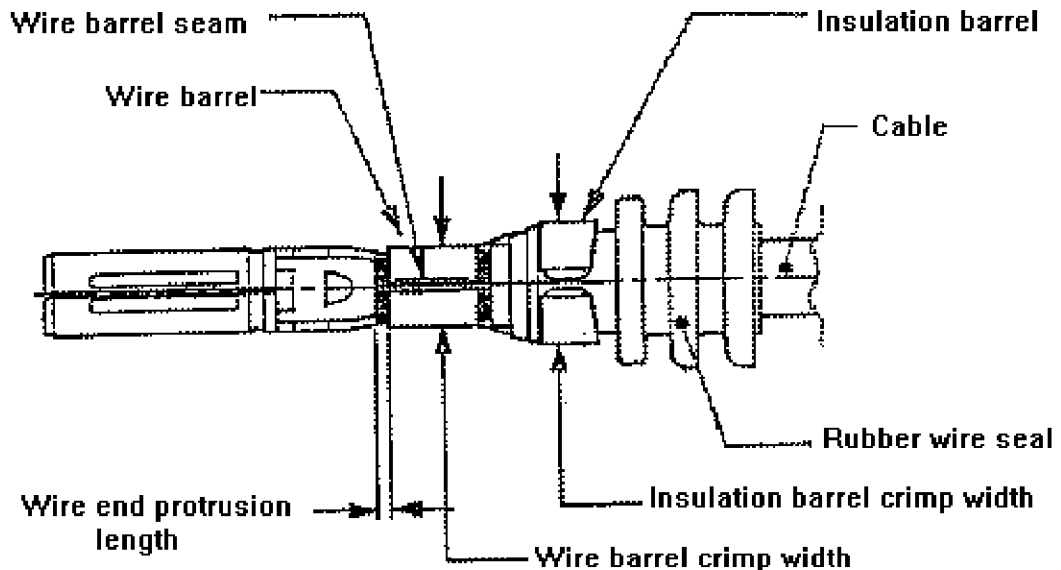
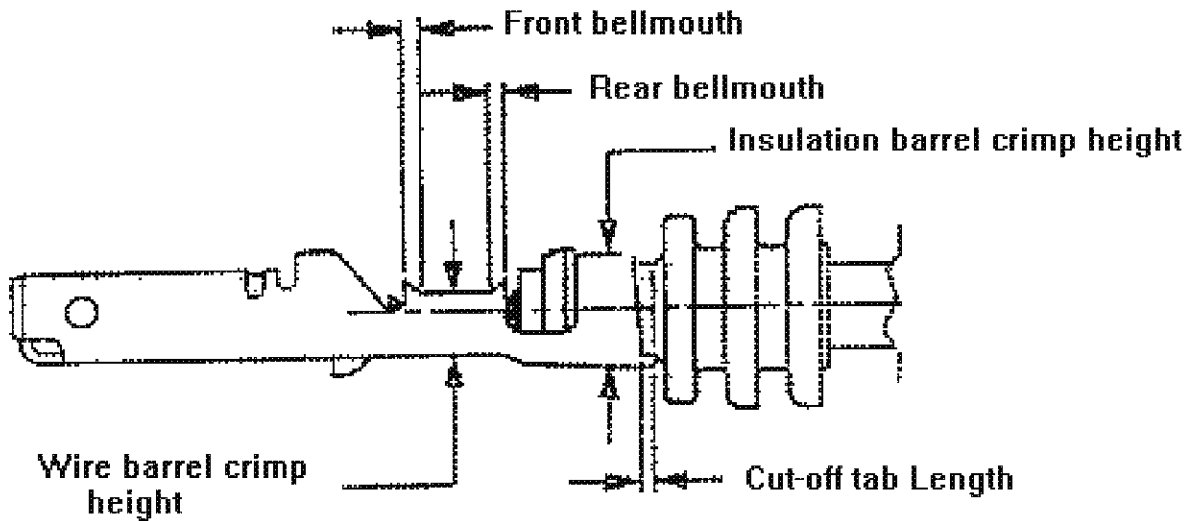
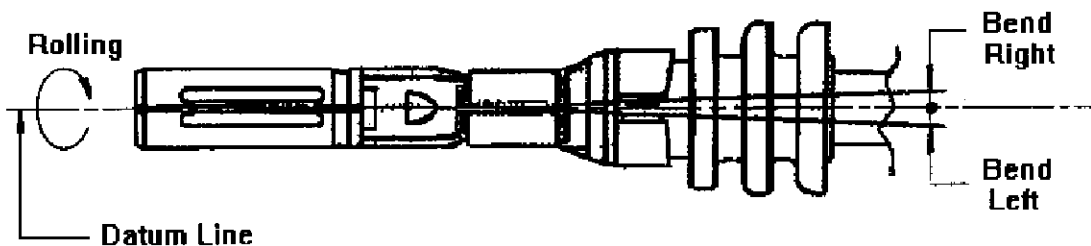

Figure 1
Figure 2
Figure 3
Refers to Nomenclature (item 4.), see Figure 1 , Figure 2 and Figure 3 .